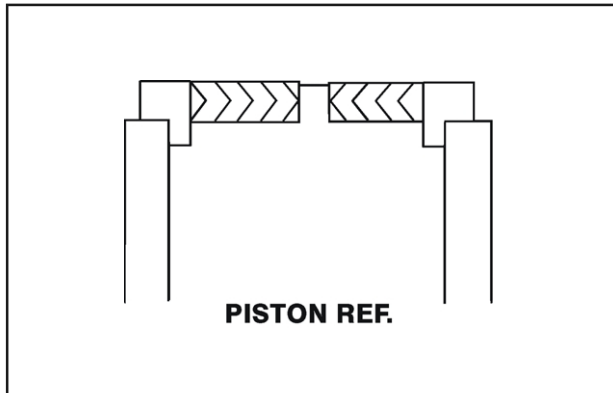

Figure 2-11. Poly-Pak Seal Installation
**WHEN INSTALLING NEW "POLY-PAK" TYPE PISTON SEALS (AXLE LOCKOUT CYLINDER), ENSURE SEALS ARE INSTALLED PROPERLY. REFER TO FIGURE 2-11 FOR CORRECT SEAL ORIENTATION. IMPROPER SEAL INSTALLATION COULD RESULT IN CYLINDER LEAKAGE AND IMPROPER CYLINDER OPERATION.**